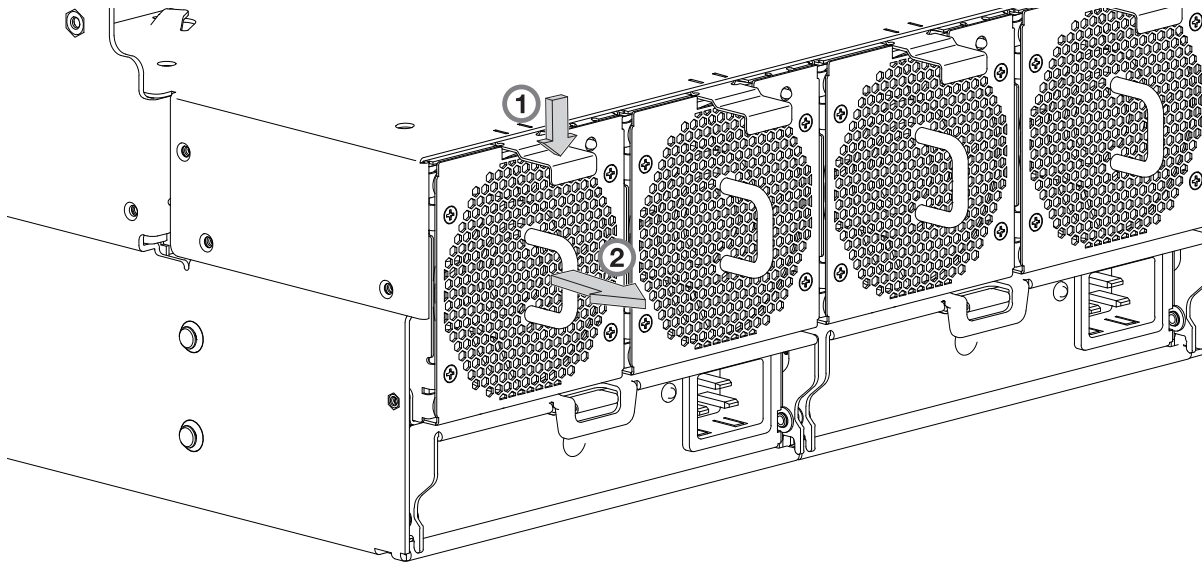
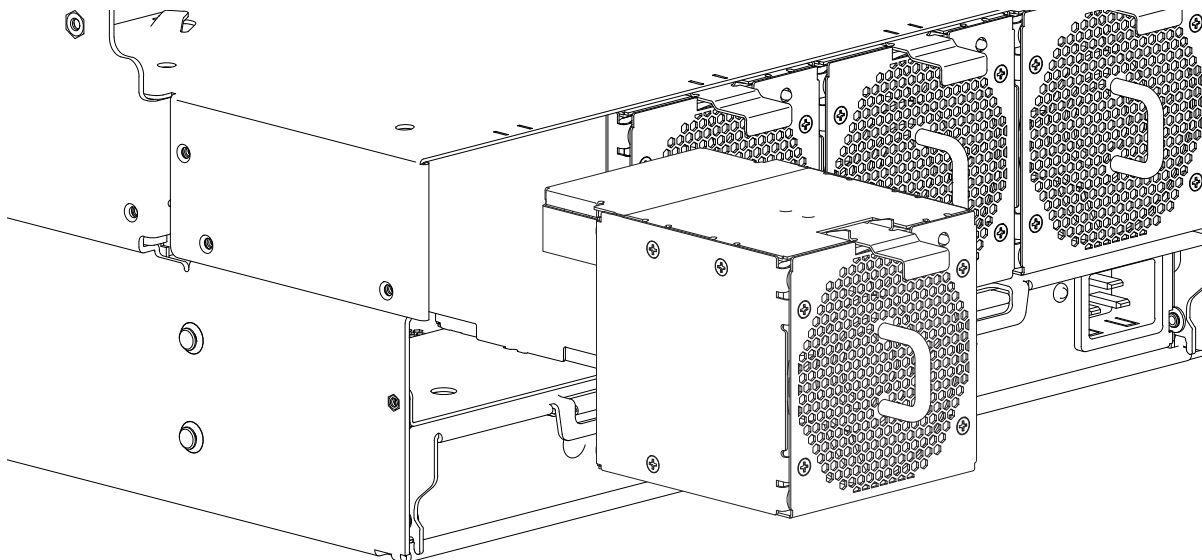

Figure 64. Removing a system fan (1 of 2)
Figure 65. Removing a system fan (2 of 2)
1. Press down on the latch tab to release the fan from its locked position. See detail No.1 in Figure 64 on page 78.
2. Grasp the fan module handle and carefully pull the fan out of its slot. See detail No.2 in Figure 65.
Refer to Figure 64 and Figure 65 when performing this procedure, but ignore the directional arrow—since you will insert the module into the slot—rather than remove it.
2. Align the system fan module for insertion into its slot, as shown in Figure 65.